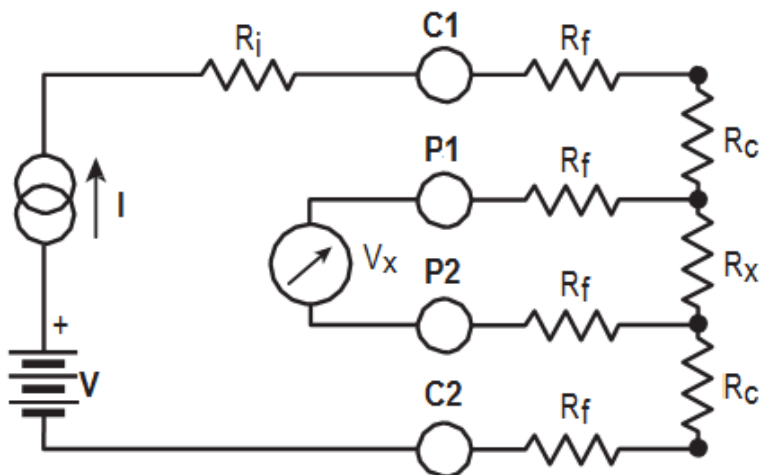

Figure 4-2
A diagram of the measurement system is shown in Figure 4-2. The Model 6255 generates a current (I) from the internal voltage source (V). A voltmeter measures the voltage drop V_x at the Kelvin probe contact points to the resistance to be measured (R_x) and displays the resistance measurement (R_x) directly using the formula $R_x = V_x / I$.